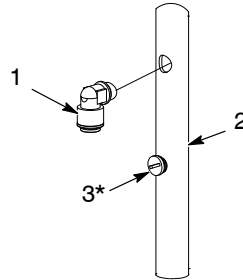

Figure 3 Header Pipe with Fitting and Plug
1. See Figure 3. Install the fittings (1) into the header pipe assembly (2) near the gun position on both sides of the gun slot. Any unused holes in the header pipe assembly should be plugged (3).